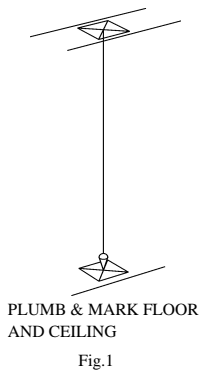

Fig.1
1. Mark location of post on beam and platform. Measure the exact floor to ceiling height using a plumb to insure accuracy. See Fig.1.